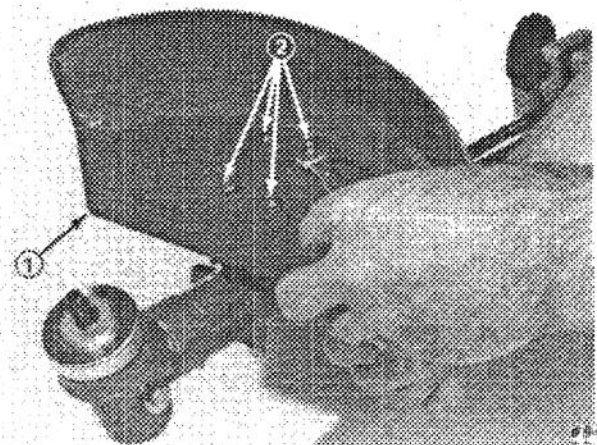

Figure 16
2. Align holes in head guard with bracket holes, insert screws and secure with spring washers and nuts (Fig. 16).